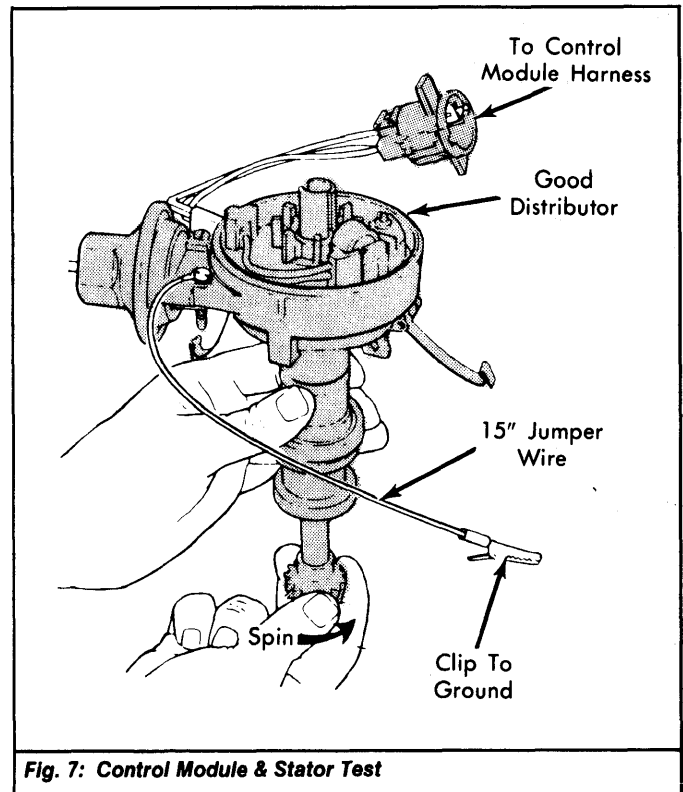

Fig. 7: Control Module & Stator Test
- 1) Perform step 1) of COIL PRIMARY CIRCUIT TEST. If modified plug sparked, but engine would not run, substitute any known good distributor. Ground distributor, but do not install. Spin gear and check for sparks. See Fig. 7.